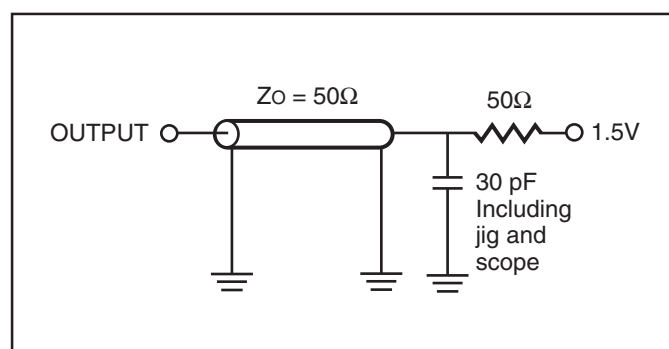

Figure 1.
- Test conditions assume signal transition times of 5 ns or less, timing reference levels of 0.9V/1.5V, input pulse levels of 0.4 to $V_{DD}-0.2V$ /0.4V to $V_{DD}-0.3V$ and output loadings specified in Figure 1.
1. Test conditions assume signal transition times of 5 ns or less, timing reference levels of 0.9V/1.5V, input pulse levels of 0.4 to V_{DD}-0.2V/0.4V to V_{DD}-0.3V and output loading specified in Figure 1.